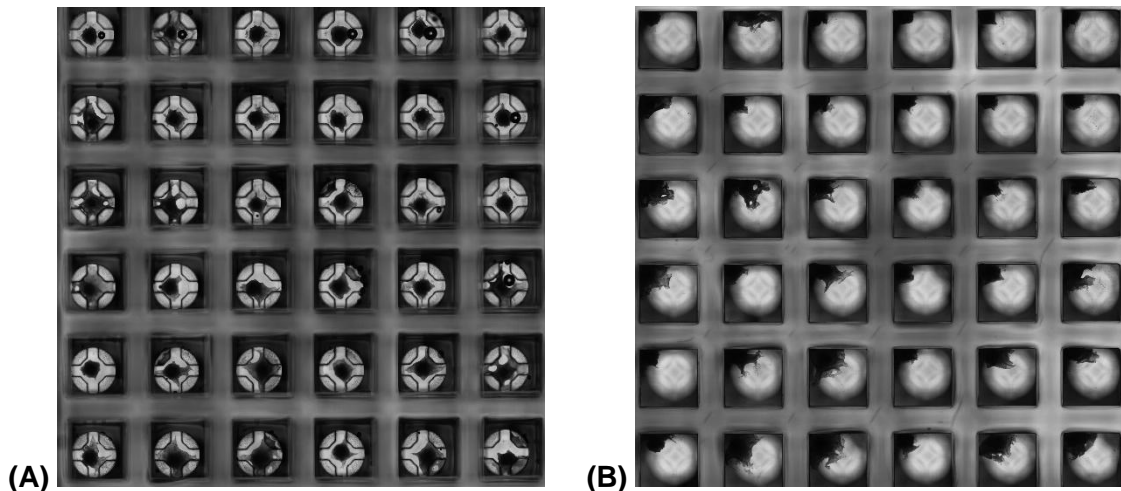

Figure 2. Stitched images of **(A)** organoids on the pillar plate and **(B)** organoids detached from the pillar plate in a 384DeepWellPlate by centrifugation.
8. Check the 384DeepWellPlate under the microscope for the number of organoids detached from the pillar plate (**Fig. 2**).